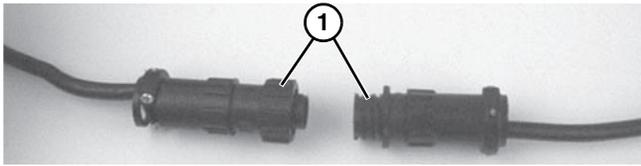

Figure 14
3. For DC variable speed motor, unplug motor cord at disconnect (**Figure 14, item 1**).